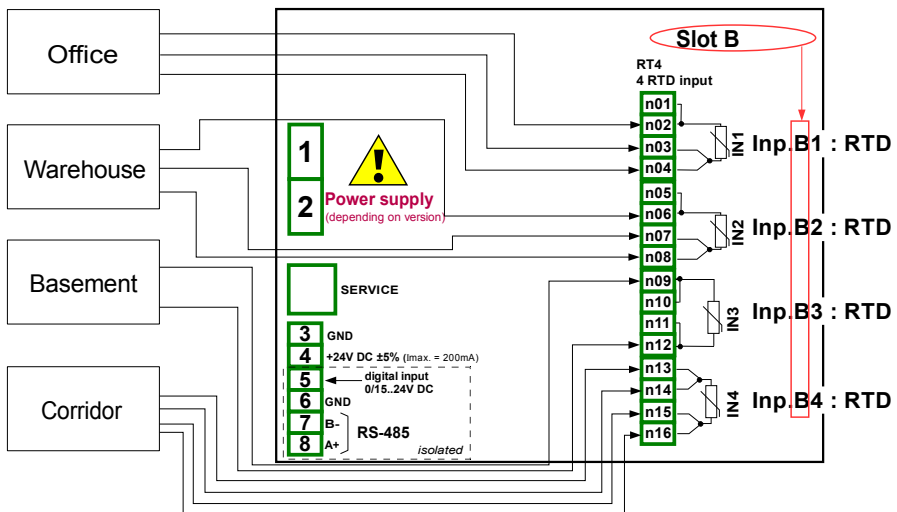

Fig. 7.65. Schematic diagram for the RT4 module
Before measuring temperature, user should configure the device, and then connect the sensors as shown in **Fig. 7.65.**
- **Source** parameter set as **Inp. B1: RTD** (see the connection in Fig. 7.65),